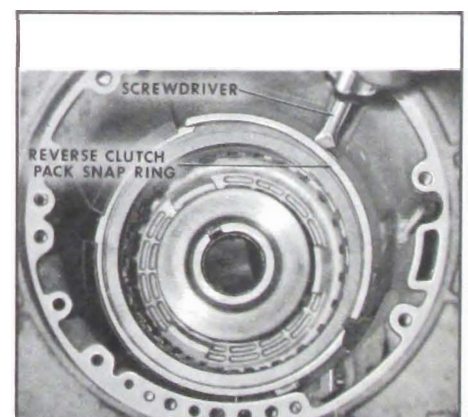

Figure 5-296
10. Install reverse clutch pack snap ring. See Figure 5-296.